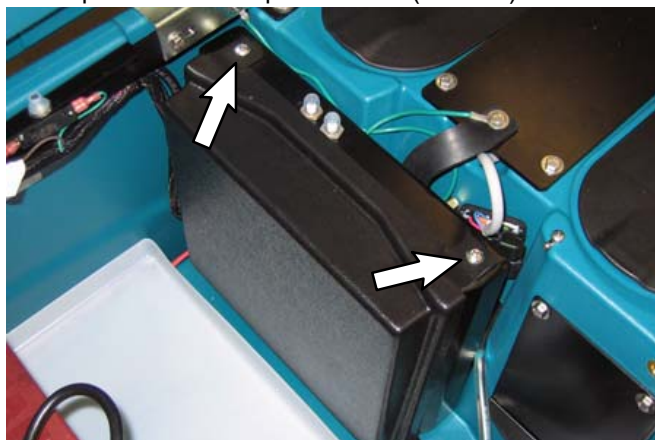

FIG. 31
17. Replace electrical panel cover (FIG. 31).